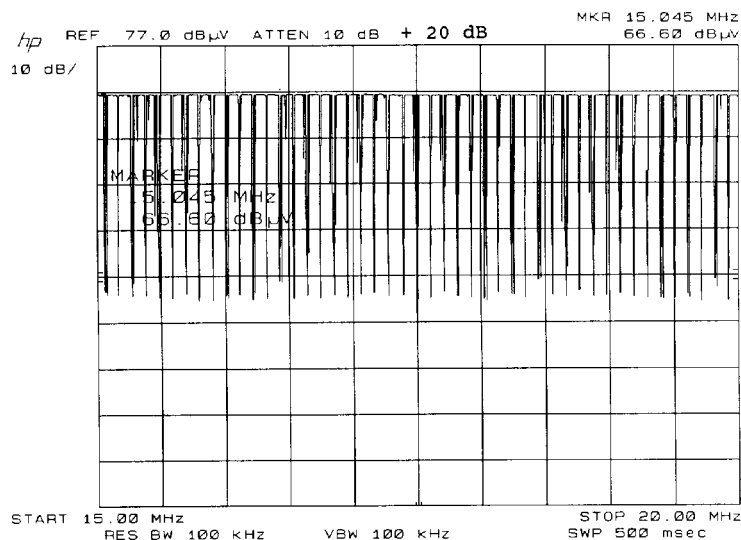

Figure 4-10. Peak Measurement of a Broadband Signal
This measurement uses a pulse generator, and measures the 15 MHz-to-16 MHz region where conducted measurements are performed. The results are shown in Figure 4-10.
14. Press **PEAK SEARCH** on the spectrum analyzer and read the marker amplitude on the display. Refer to Figure 4-10.